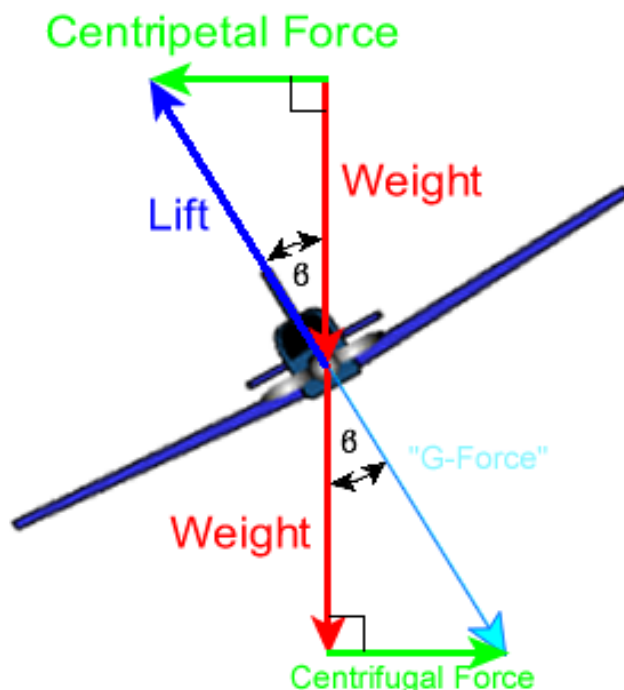

Figure 34
In straight and level flight we want lift to be precisely equal to weight. But in a turn we need more lift. Figure 34 shows an aeroplane in a coordinated¹² turn with bank (β). The amount of lift (L) required is given by the function $L = W / \cos(\beta)$ where β is the angle of bank.